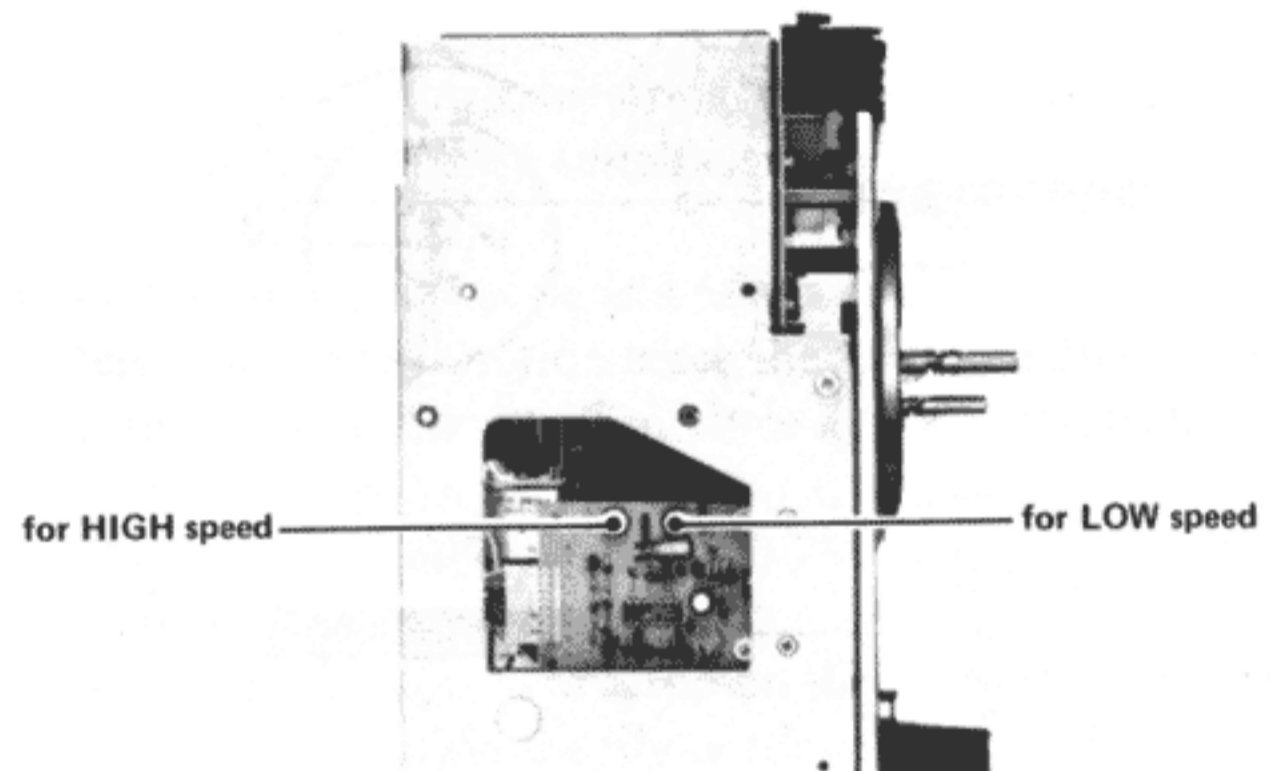

Fig. 7-7 Tape Speeds Adj. Location
**NOTE:** Tape Speed Measurement: PITCH CONT should be in OFF position. If necessary, adjust tape speed on the Capstan Servo P.C.B. See Fig. 7-7 below.